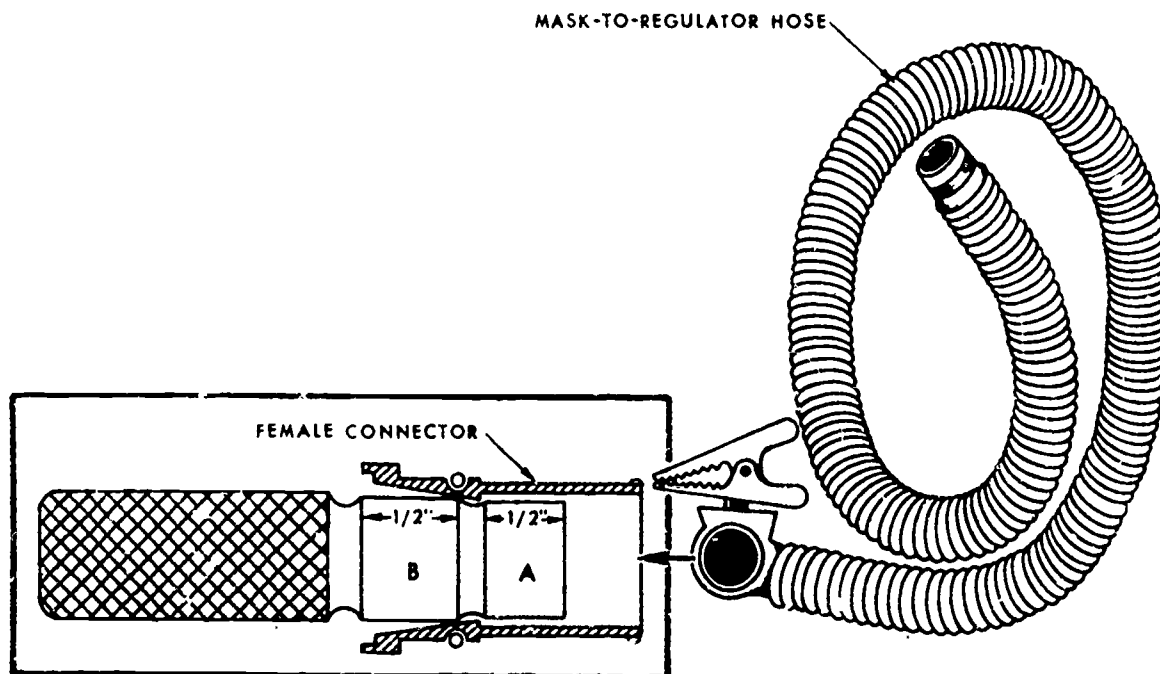

Figure 2. Using the GO-NO-GO Gage.
3. Put the gage in the female connector of the mask-to-regulator hose, as shown in figure 2. Push the gage straight in, but do not force it. A slight rocking or twisting motion may be used.
4. The "GO" part of the gage (A) is small and should slip through the smallest internal diameter of the connector. The "NO-GO" part (B) should not go through the small part of the connector. If it does, the connector has too much wear and must be replaced.